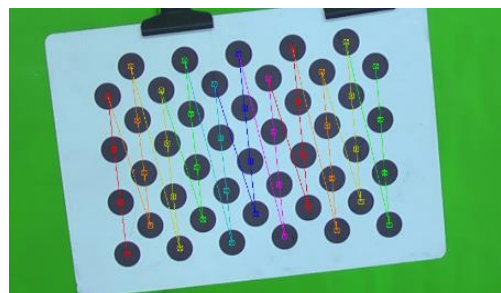

Figure 8
- Position the chart so that it is fully seen in the video image and that it is in sharp focus, this will enable the chart to be recognized by the system and is indicated by a coloured overlay being displayed over the chart, Figure 8